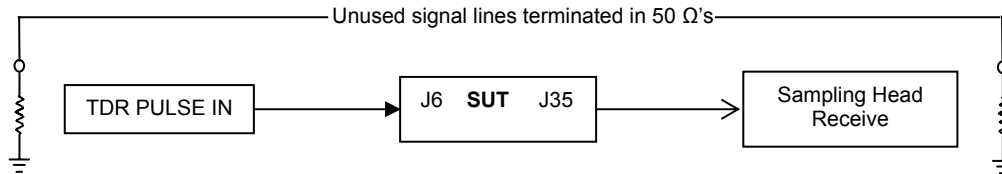

Figure 3 - Insertion Loss, Impedance, Propagation Delay
SUT Preparation (figure 3) –The signal path for single ended transmission measurements was characterized using connector/pcb fixture SOLC, J1 / TOLC, J2 (ie. J6, J35). The differential transmission path measured is located on connector/pcb fixture SOLC, J15 / TOLC (ie. J21-J24, J48-J50). Terminate all unused transmission paths in the connector/pcb fixture bank using 50Ω high frequency (HF) terminations. Reference correct connector/footprint pinout map for insertion loss configuration detail.
The signal line(s) of the SUT's signal configuration is energized with a TDR pulse. The far-end of the energized signal line is terminated in the test systems characteristic impedance (e.g.; 50Ω terminations). Terminating the adjacent signal lines in the test systems characteristic impedance limits unwanted changes to the impedance response. (Figure 3).
This connector series uses the fastest edge rate (30ps) of the TDR impedance waveform to measure propagation delay. . Differential or single ended signal delay is the measured difference of propagation between the known signal trace delay and the delay of a mated SUT. The measurement is a one-way propagation result. Termination of the adjacent signal lines into the test systems characteristic impedance eliminate alternate current paths providing for better measurement accuracy (Figure 3). Reference PCB100364-TST-02 boards for PD reference trace delay lines).